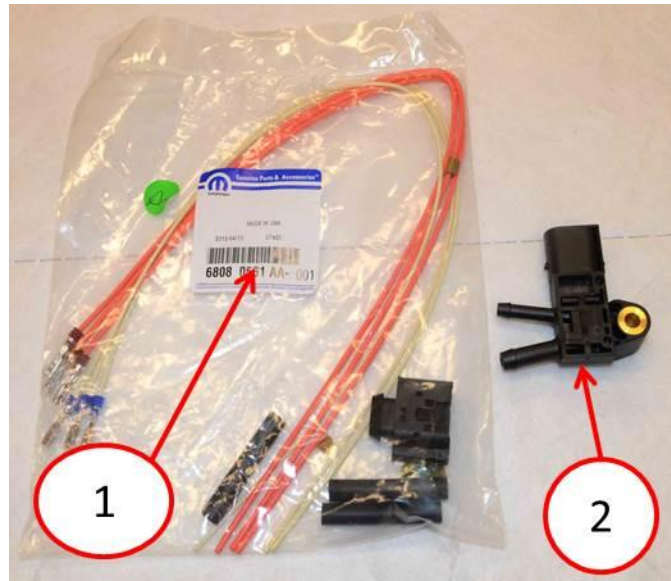

Fig. 3 Parts Required
- 7. Using the Wiring Kit, P/N 68080561AA (Fig. 3), replace the existing 3 way connector and terminals with the new components from the kit which will be complete with silver plated terminals. To complete the Service Procedure only the white wires are necessary. Refer to the detailed service procedures available in DealerCONNECT> TechCONNECT under: Service Info>29- Non DTC- Diagnostic>Circuit Testing Procedures>Standard Procedure>Wire Splicing.